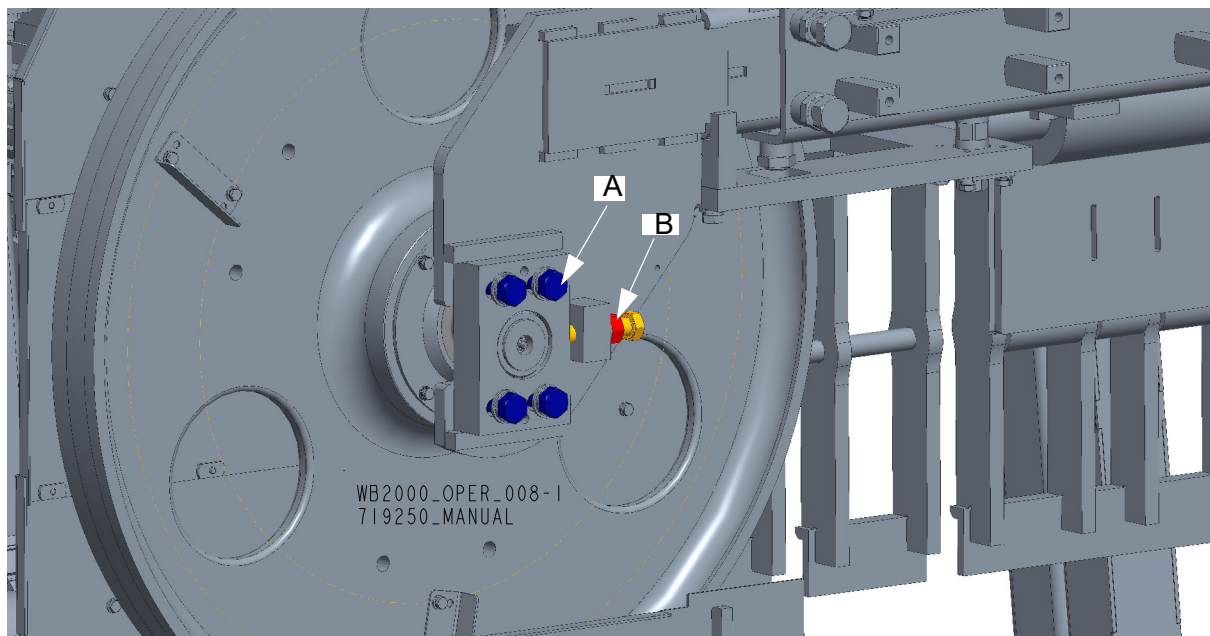

FIG. 3-29
5. On the drive side use the cant adjustment nuts, shown in **Figure 3-29**, to adjust when the blade travels on the blade wheels.
See Figure 3-29